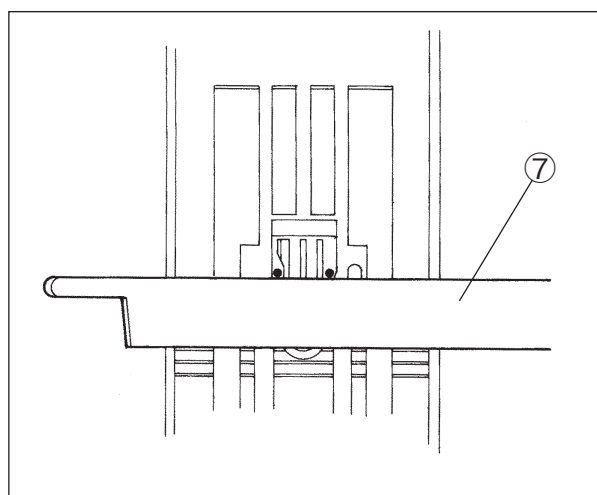

Fig. 1-5
It is easy to check the parallelism of the needle and the needle drop if you use the upper knife ⑦ , with the lateral groove of the stitch plate as a reference. (Fig. 1-5)